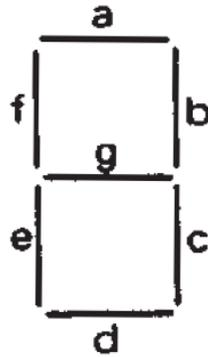
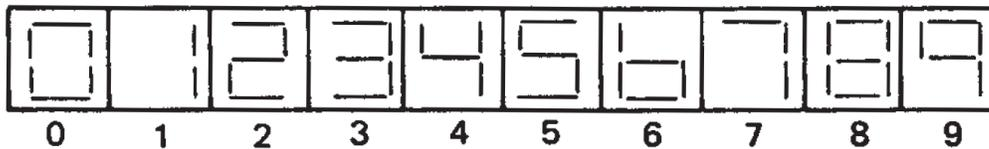
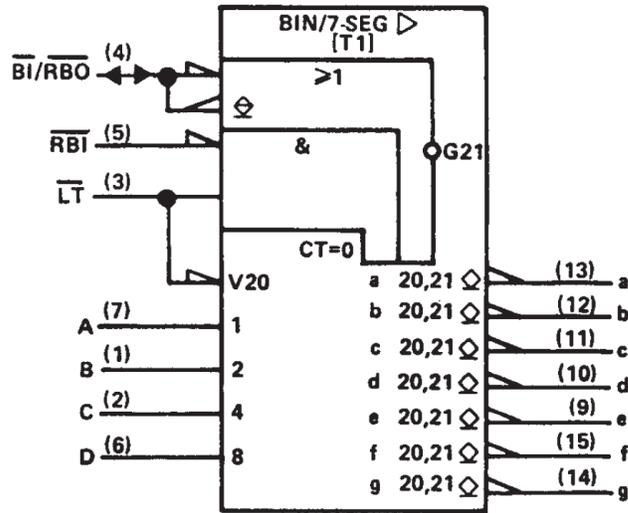

Figure 1: Seven-Segment Display
Figure 2: Digits 0-9 on the Seven Segment Display
Figure 3: Seven Segment Display Decoder/Driver
The seven-segment display contains seven individual Light Emitting Diode (LED) segments, arranged in the shape of the decimal digit **8** as shown in Figure 1. In such a display, each segment can be individually enabled, allowing the display of decimal digits 0 through 9 depending on which segments are lit up at any point in time. Figure 2 demonstrates the display of decimal digits 0 through 9 on a seven-segment display.
A BCD seven-segment display decoder (Figure 3) takes as input a BCD digit and decodes it into seven outputs which individually control the seven segments of a seven-segment display. In Figure 3, **A** is the least significant bit of the BCD input, while **D** is the most significant bit of the BCD input. The output bits of the decoder (**a**, **b**, **c**, **d**, **e**, **f**, **g**) correspond to the individual segments of the seven-segment display shown in Figure 1.
5. (**Honors**) Use Karnaugh Maps to derive the minimized Boolean expressions for each output of the BCD to seven segment decoder. Your input should be the driver inputs (**D, C, B, A**) with **A** being the least significant bit and **D** being the most significant bit (as shown in Figure 3). Similarly, the outputs should be the driver outputs (**a, b, c, d, e, f, g, h**). Start by creating a truth table based on Figure 1 and Figure 2.